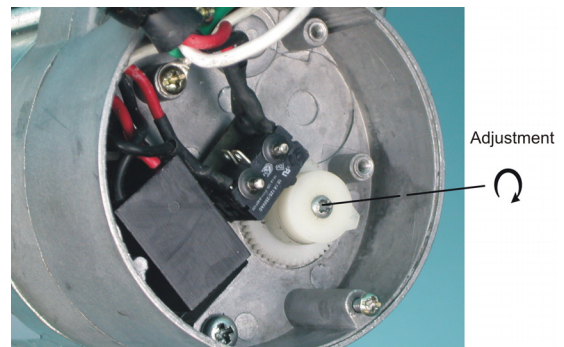

Figure 64. Setting the Actuator
9. At the control unit, after clamping the cable to the spring, cut the cable about 8" to 10" [200 to 250 mm] longer than necessary. Feed the end of the cable through the center of the spring, around the first insulator on the control unit, and clamp the cable using the cable clamp supplied with the control unit. See **Figure 64**.
10. Install the wire form on the control unit insulators. Be sure the guard snaps into the retainers molded into the insulators. See **Figure 64**.